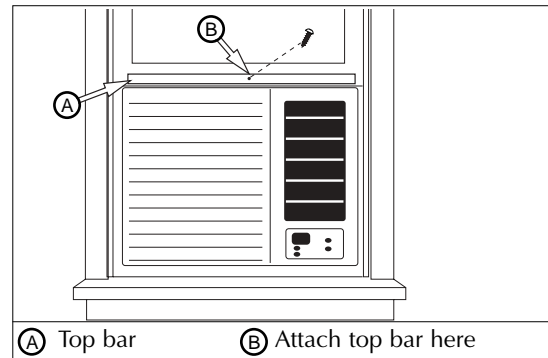

Fig. 1
4. **Make sure cabinet projects into the roomside of the wall 1 1/4" at the top and 1 1/2" at the bottom to ensure proper tilt and access to the anti-theft screw, then fasten cabinet to the frame by drilling twelve (12) 1" wood screws (not supplied) through the cabinet and into the frame. (Fig. 1 & 2)**